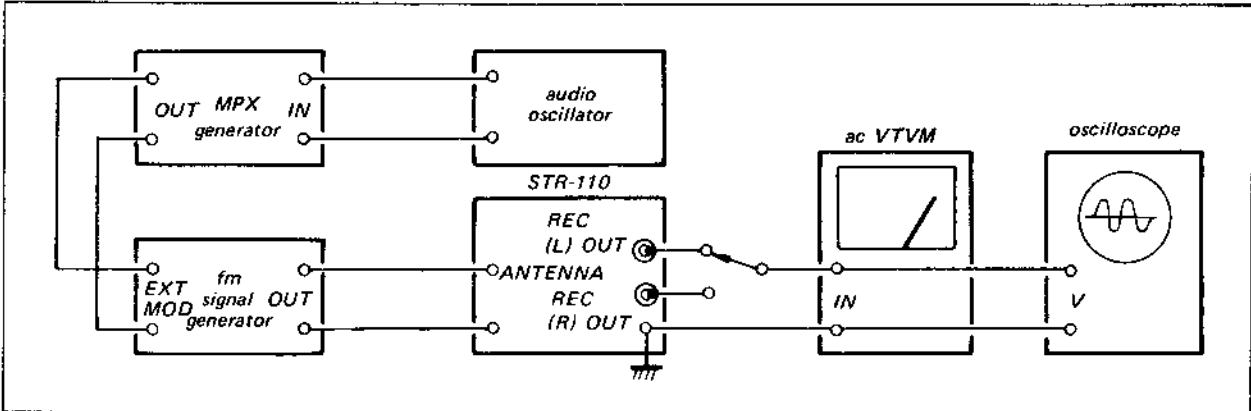

Fig. 3-11. Fm stereo separation adjustment test setup
1. Connect the equipment as shown in Fig. 3-11. Set the fm signal-generator's control as follows:
- (a) With the equipment connected as shown in Fig. 3-11 set the MPX stereo generator controls as follows: